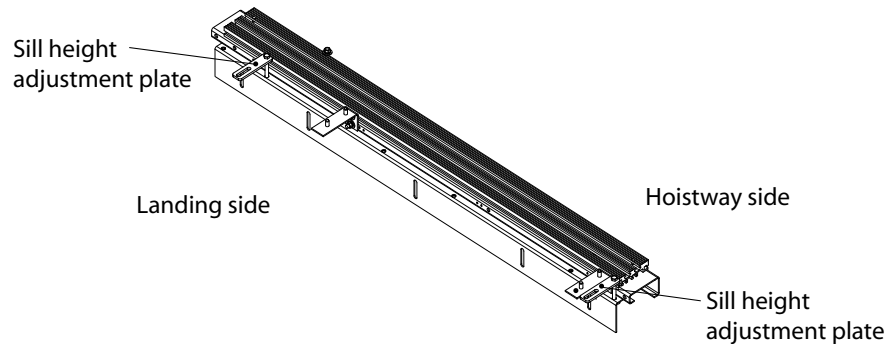

Figure 4 Sill Height Adjustment Plates
4. The sill height adjustment plates (see Figure 4) allow you to raise the height of the sill assembly to ensure that the top of the grout angle plate remains 2-1/2" lower than the finished floor dimension when adding grout.